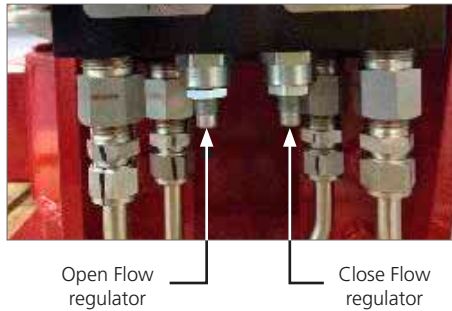

Fig 11.5 Flow regulator –front view
- Rotate the flow regulators (see Fig 11.5), by means of an Allen key, clockwise to lower the flow rate